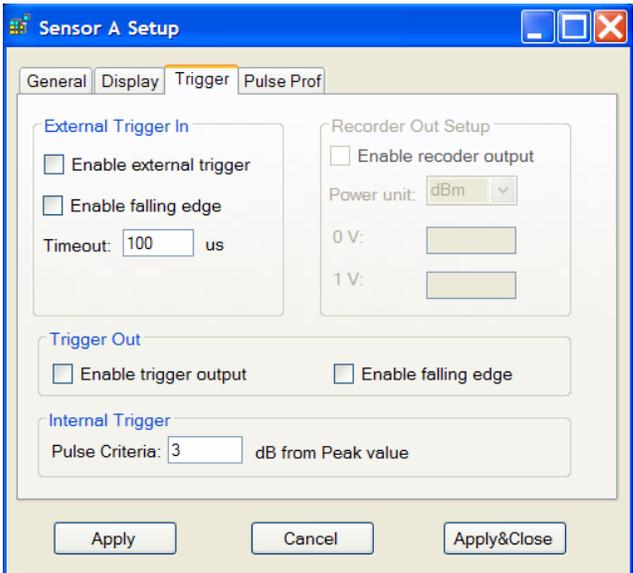

Figure 15. Sensor Windows
Sensor > Sensor A Or Sensor > Sensor B	Clicking on the Sensor menu item shows the sensors that are connected to the computer. Clicking on a selection opens that sensor window. Figure 15 shows two sensor windows opened.
4.	There are different ways to measure CW power. Choose among the following: <ul style="list-style-type: none"> • To determine RF power: use the Sensor window (see Figure 15 on page 17). • If you want to view a CW source that is changing over time: use the Strip Chart (see page 26).